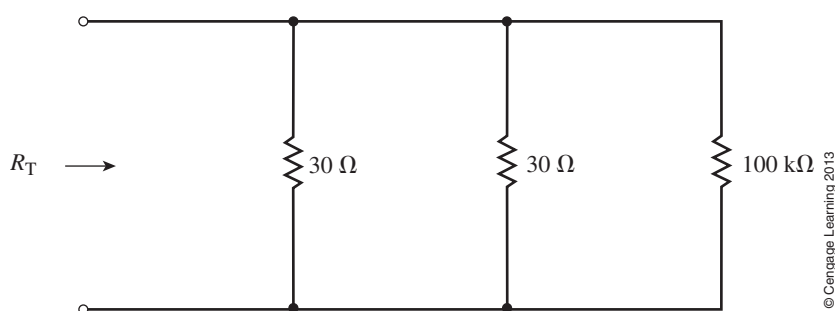

FIGURE 6-68
25. Without using a pencil, paper, or a calculator, approximate the total resistance of the network of Figure 6-68.